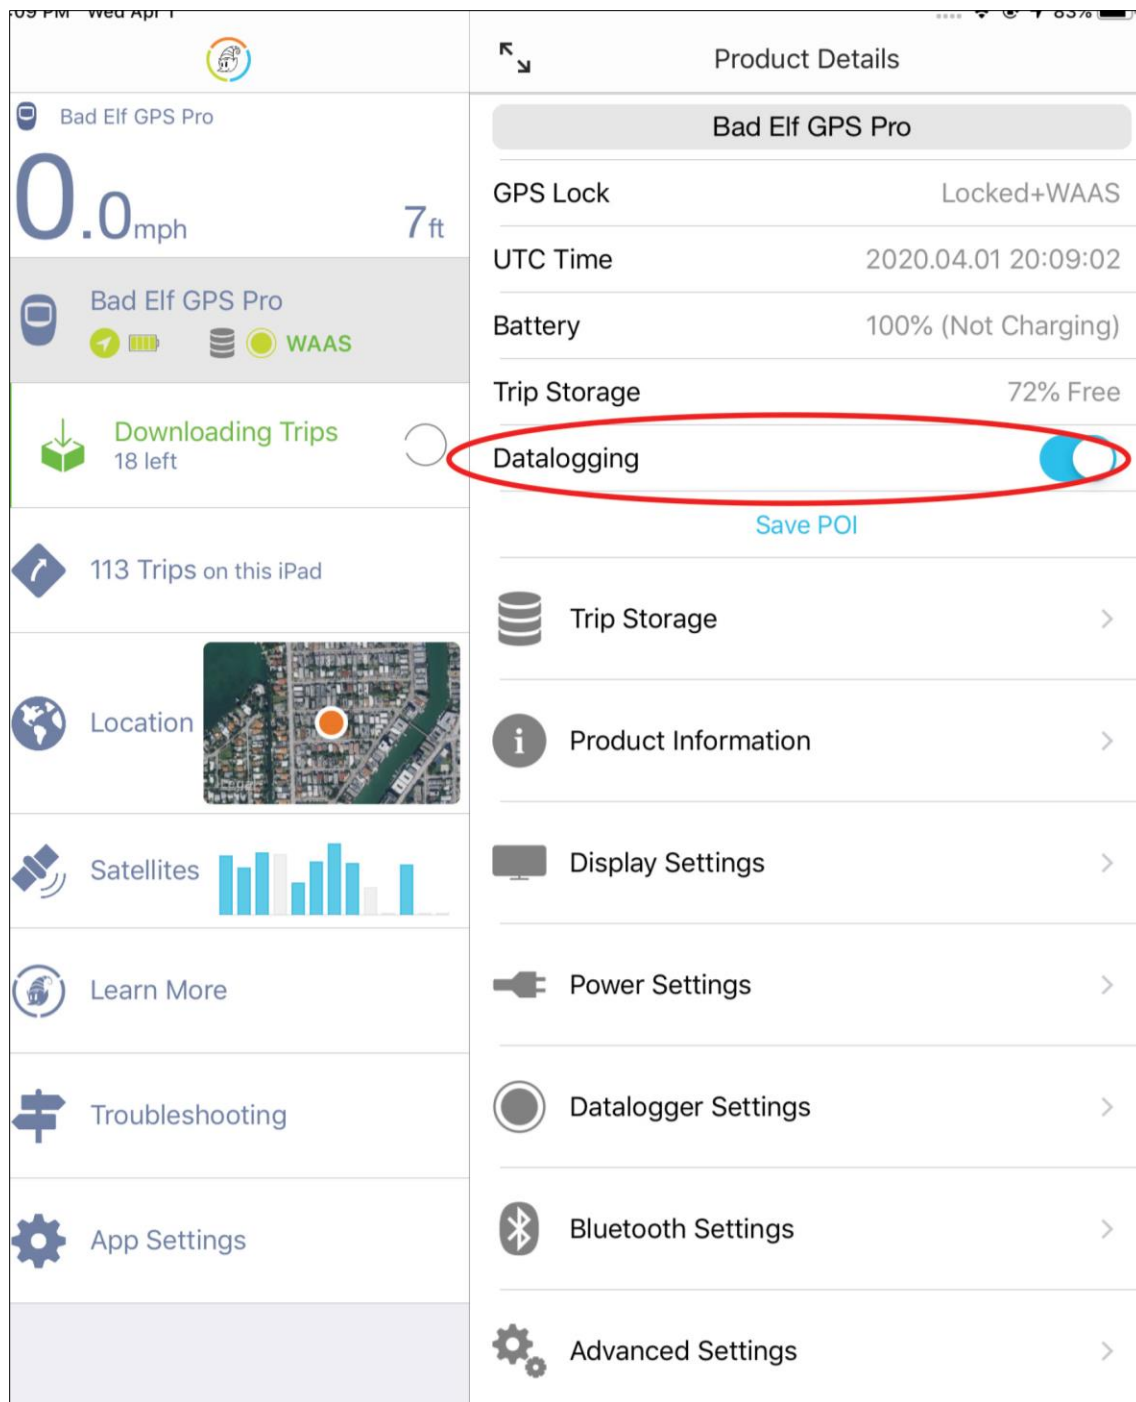

Figure 13. An example of the Bad Elf GPS app, with the Datalogging option turned on.
8. Open the app. Select the second box from the top on the left pane. It should display the model of the Bad Elf that is connected (see Figure 13 below).
9. On the right side of the screen find 'Datalogging' under the Product Details section. Switch the Datalogging button to the right. It will display with a blue color if activated to 'On' (see Figure 13 below).